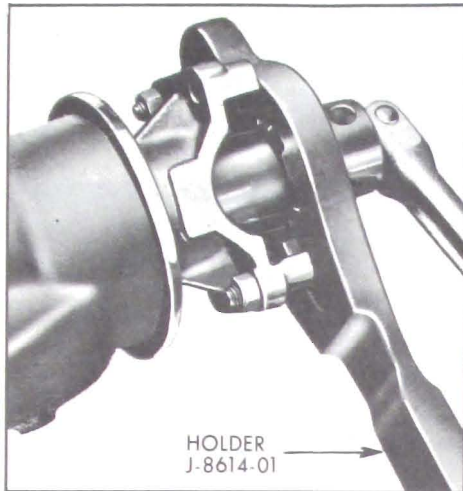

Fig. 6-14—Removing Pinion Nut
2. Install Holder J-8614-01 on pinion flange by using two 5/16-18 x 2 bolts with flat washers. Remove pinion nut and washer. See Figure 6-14.